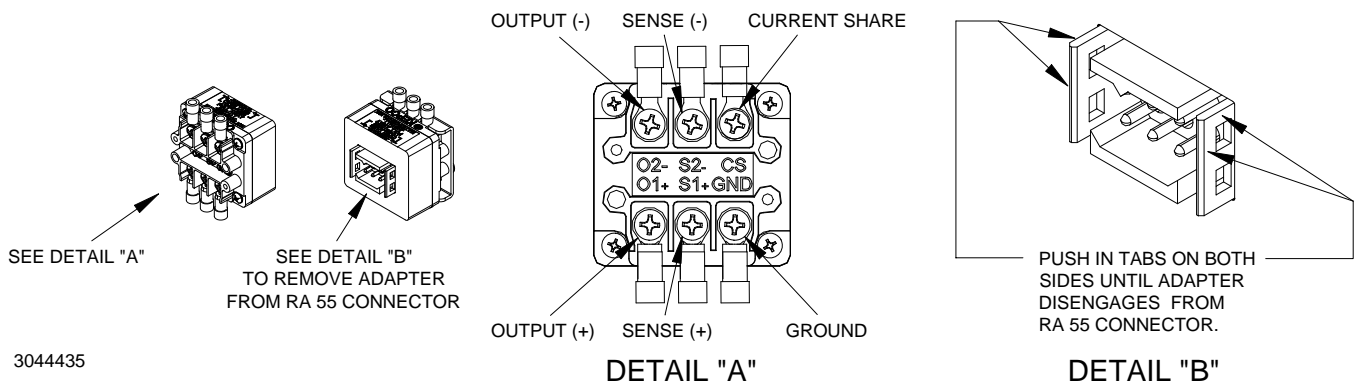

FIGURE 1. KIT 219-0618 ADAPTER
This kit provides an adapter (see Figure 1) which converts the 6-pin Load Connector at the rear of the RA 55 Rack Adapter to terminals with pre-installed lugs using 6-32 screws (for 0.312 inch maximum ring diameter), for connection to a load. See Figure 3 for outline dimensions.
2. Crimp wires or pre-wired harness to lugs. See Figure 1 for terminal functions.
If removal of the adapter is necessary, pull the adapter away from the RA 55 load connector while simultaneously pushing in both tabs of the adapter as shown in Figure 1, detail "B." When the RA 55 connector disengages from the corresponding holes of the adapter, pull the adapter away from the RA 55 load connector.